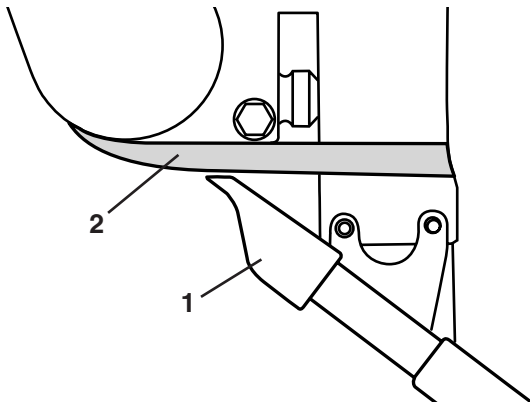

Figure 12
Apply minimal pressure between the scraper (Figure 12, item 1) and the belt (Figure 12, item 2).